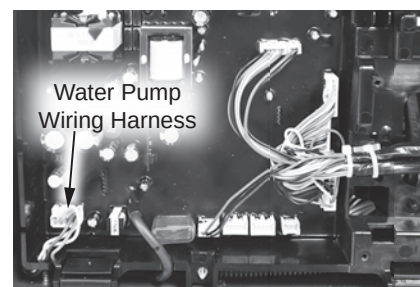

Figure 157 - Water pump wiring harness location
- 14 Locate the water pump wiring harness on the control board panel as shown in Figure 157. Disconnect and route the wiring out of the way for ease of removing the water pump.
- 35** Lift the control board panel up and reconnect the water pump wiring harness previously disconnected in **Step 14**. Slide the wiring through the slot in the circuit board panel as shown in Figure 157. Lower control board panel.